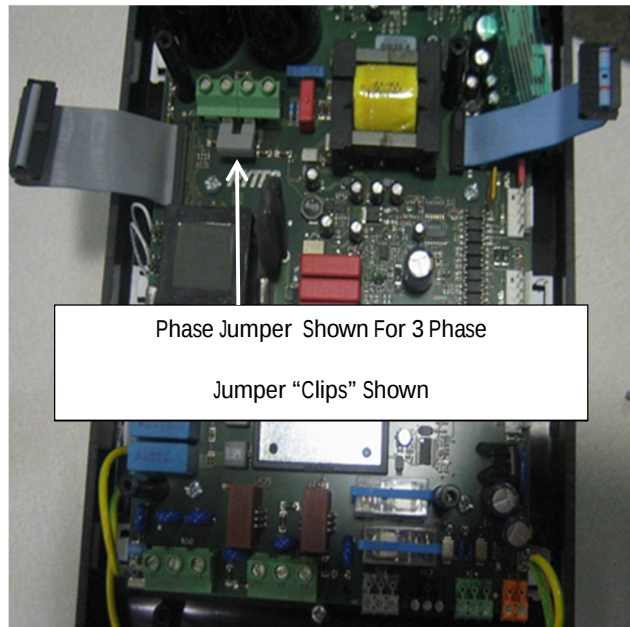

Figure 5
The phase jumper is located just beneath the two (2) black cans (capacitors). It will either be 2 “clips” or 1 jumper wire. (See figure 5).
To configure the control from single phase to three phase move the jumpers to the position in figure 5.